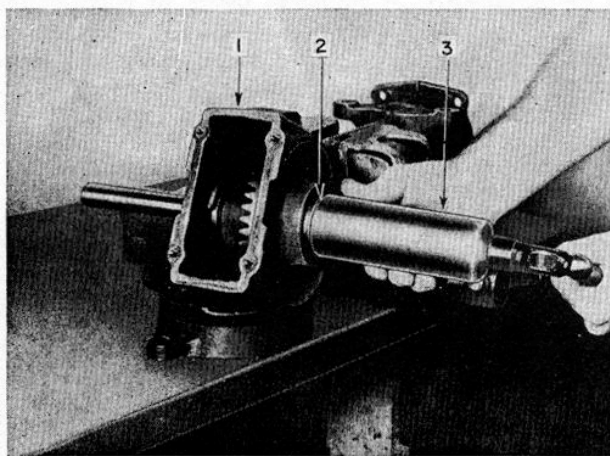

FIG. 49—INSTALLING TILLER DRIVE SHAFT OIL SEALS
- h. Remove bearing cone, then drive cup from left side of housing with Driver GP-11 as shown in figure 49, then remove ring gear and shims.
- g. Insert Sleeve GP-11 onto shaft (thick end first), then using fingers, press oil seal over shaft and onto sleeve. Drive seal into housing with Driver GP-11 as shown in figure 49. This procedure applies to both seals.